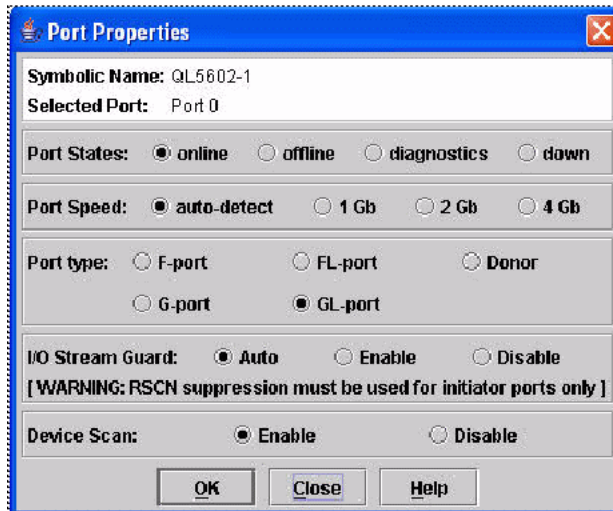

Figure 7-10 Port Properties settings window
12. Verify the following are true for port 0 (Figure 7-10):